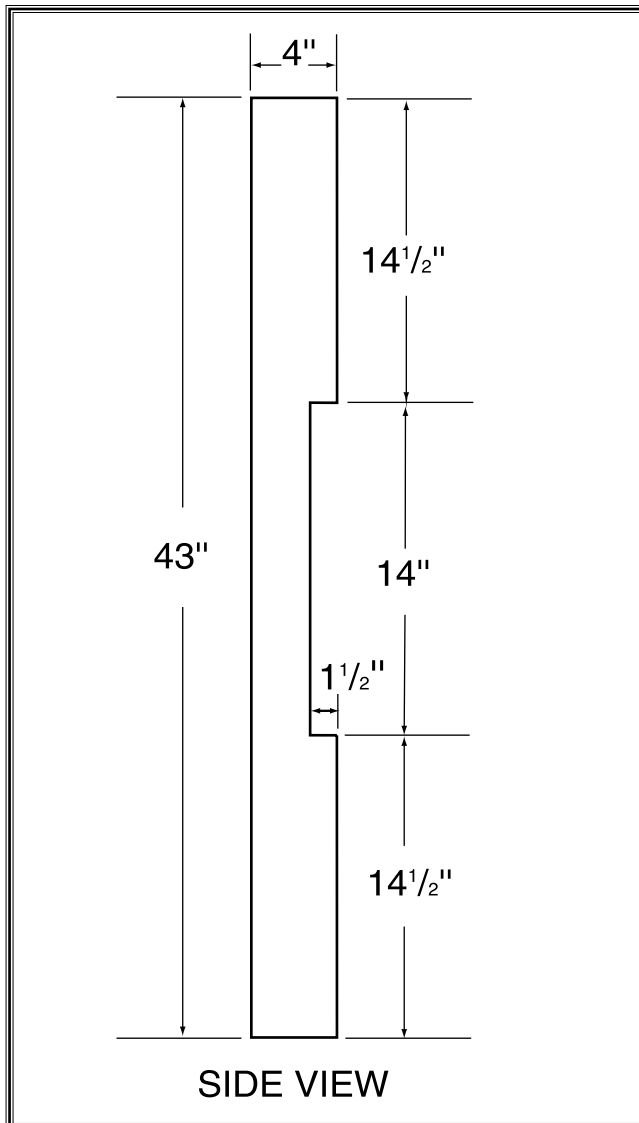

Figure 33. Dimensions of coplanarity gauge.
1. The body of the bandsaw does not allow you to place a regular straightedge across both wheels at the same time. We’ve found a simple way to overcome this situation. All you need is a 43" x 2" x 4" board and a saw. After you are certain that the board is straight (this can easily be checked with a 4' level), simply cut a 1 1/2" notch out of the center. Refer to **Figure 33** for more details on how to make this gauge.